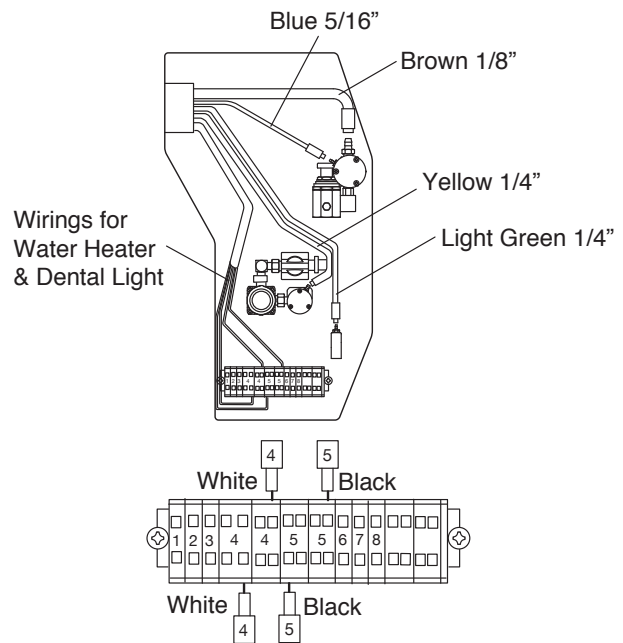

Fig.2-8 Standard Specification
- 6) Connect tubings with nylon sleeves to the fittings as shown in Fig.2-8 or 2-9.
- 7) Connect wirings to Electric Terminal as shown in Fig.2-8 or 2-9.